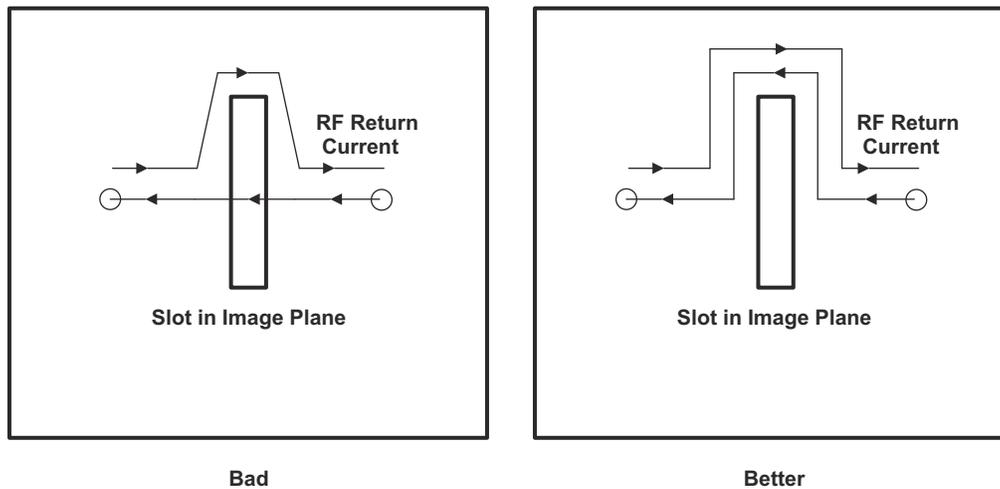

Figure 2-4. Do Not Violate Image Planes
- Avoid image plane violations. Traces that route over a slot in an image plane results in a possible RF return loop, as shown in Figure 2-4.